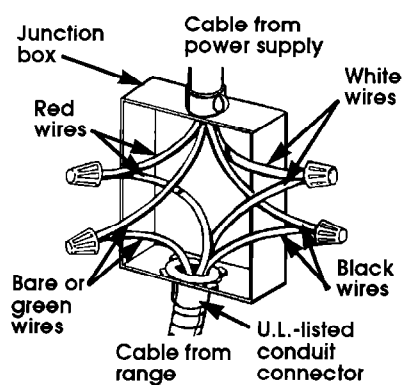

Figure 2
4. Connect the two black wires; then the two red wires. See Figure 2.